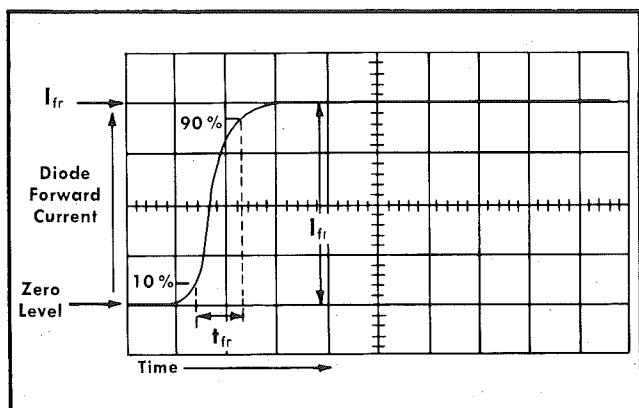

Fig. 2-29. Diode forward recovery switching display.
Diode Switching Terms (See Figs. 2-29 and 2-30)
6. Turn the pulse generator on, and set the oscilloscope triggering controls for a display similar to that shown in Fig. 2-29. Use this display to measure the forward-recovery switching characteristics of diodes when the forward switching voltage is known. Proceed to step 7 if I_{fr} is known.
7. Set the pulse generator output for the known I_{fr} indication on the display (see Fig. 2-29). Use this display to measure the forward-recovery switching characteristics of diodes when I_{fr} is known.